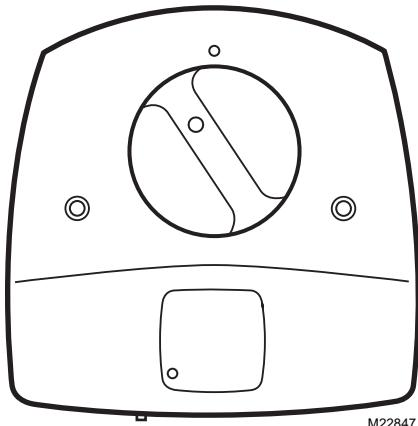
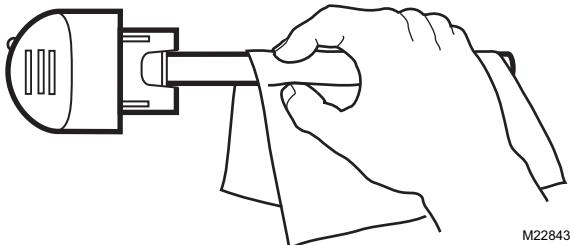

Fig. 5. Insert bulb into base unit.
Fig. 6. Use cloth to wipe fingerprints from glass.
- Insert the bulb into the base unit with the lamp light indicator at the eleven o'clock position (left of the raised button on the unit cover). See Fig. 5. If you touch the lamp glass with your hands, use a cloth to wipe fingerprints from the glass. See Fig. 6.